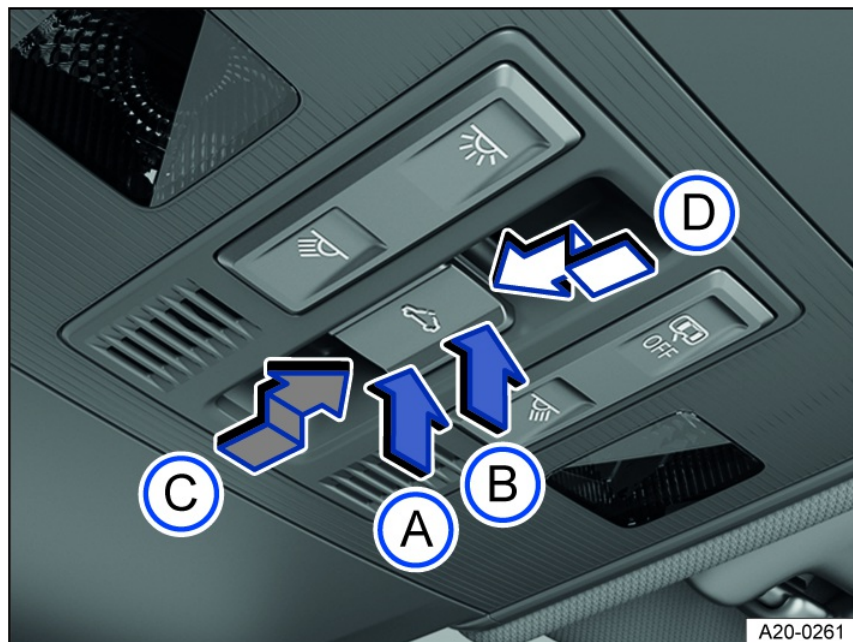

Fig. 67 In the headliner: sunroof button.
- Manual process: Press the fig. 67 \(B\) button to the first level.
- Automatic process: Press the fig. 67 \(B\) button to the second level.
- Manual process: Press the fig. 67 \(A\) button to the first level.
- Automatic process: Press the fig. 67 \(A\) button to the second level.
- Manual process: Press the fig. 67 \(C\) button to the first level.
- Automatic process to comfort position: Press the fig. 67 \(C\) button to the second level.
- Manual process: Press the fig. 67 \(D\) button to the first level.
- Automatic process: Press the fig. 67 \(D\) button to the second level.
1. Press the fig. 67  or  button again.